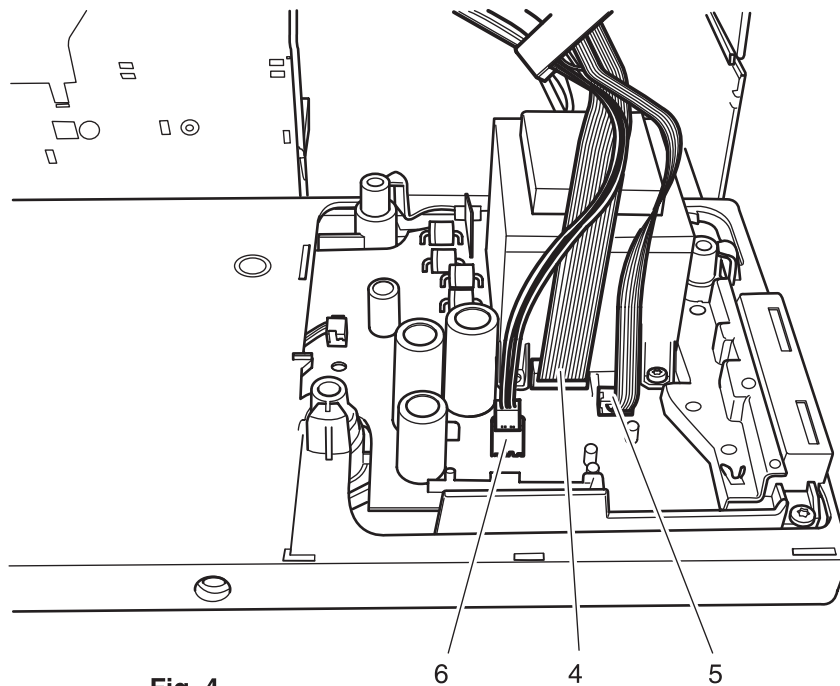

Fig. 4
- Remove 12-wire flat cable 4, remove 6-wire flat cable 5 and motor cable 6 from the circuit board (fig. 4).
- Loosen screw 22 (fig. 4).
- Fit pin 23 without any play and tighten screw 22 (fig. 4).